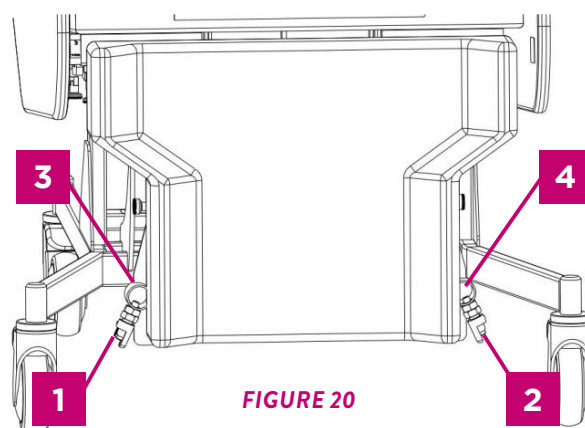

FIGURE 20
1. Ensure that the plungers that secure the footplate (Fig 20, Items 1&2) are in the closed position (Fig 22).
2. Take the footplate (Fig 23) and insert the two tapered spigots (Fig 23, Items 1&2) into the two sockets either side of the footplate height adjustment frame (Fig 20, Items 3&4). Push the footplate into the tubes until the plungers latch with an audible click.
1. Locate the plungers that secure the footplate either side of the legrest, at the bottom of the footplate height adjustment frame (Fig 20, Items 1&2).